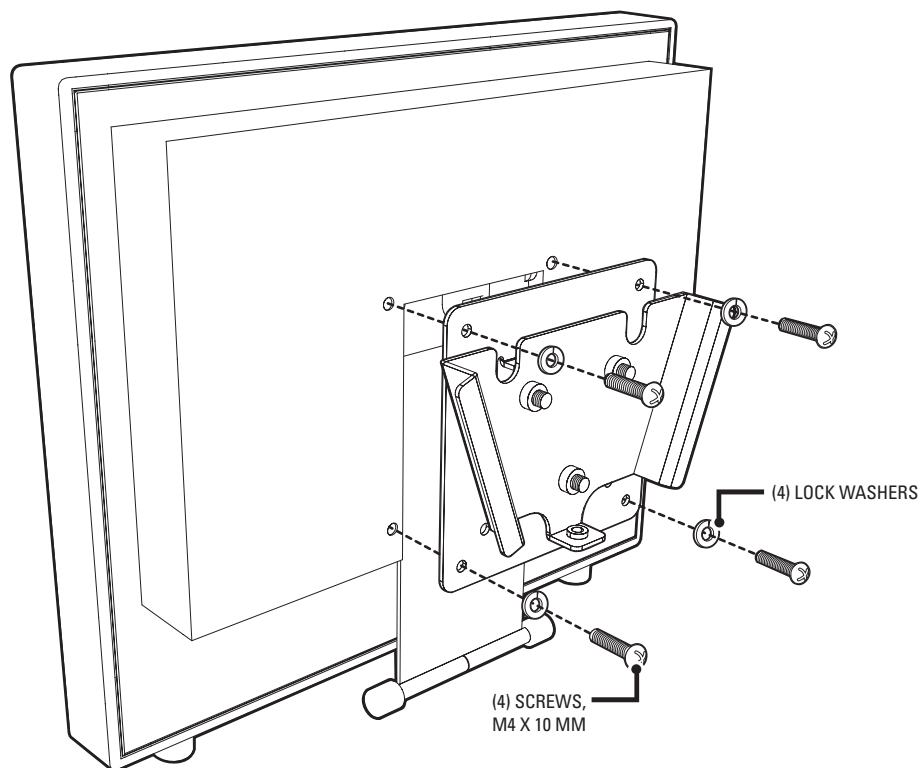

Figure 1. Attaching Monitor Bracket
1. Attach the monitor bracket to the monitor as shown in Figure 1. Use the M4 x 10 mm screws and split lock washers.